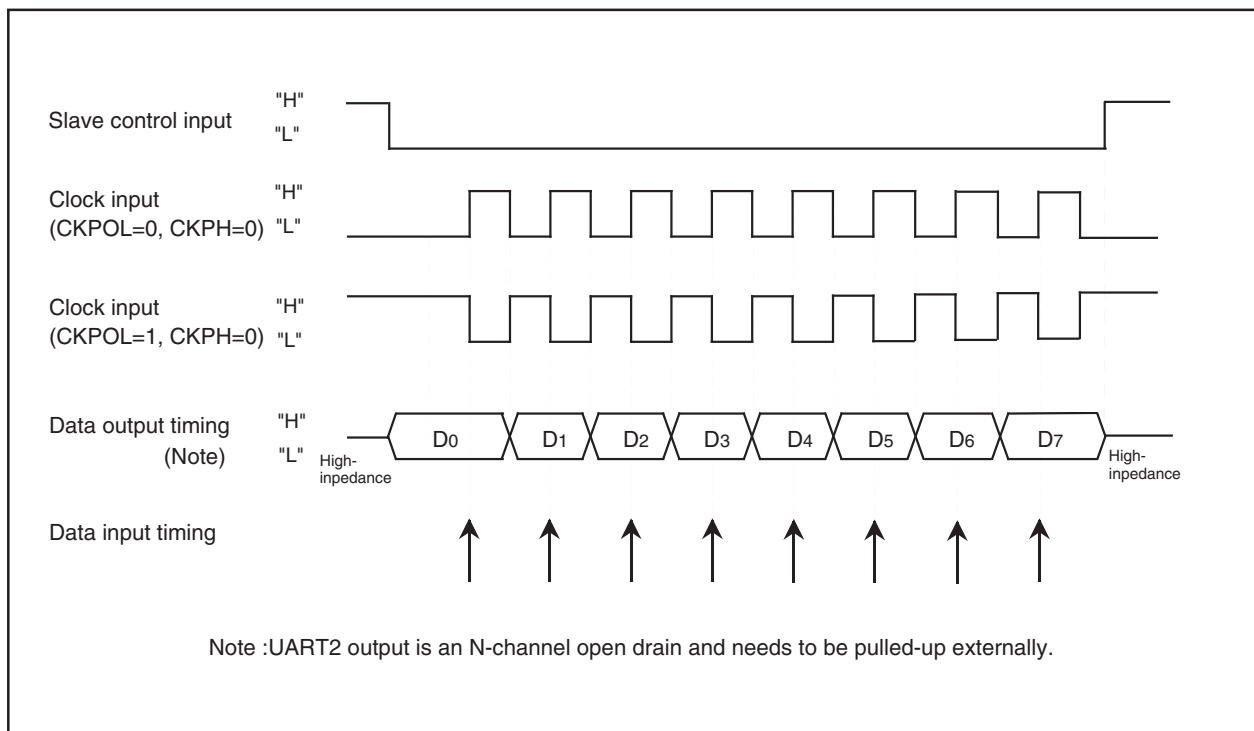

Figure 1.15.35. The transmission and reception timing (CKPH=1) in slave mode (external clock)
- Figure 1.15.35 shows the timing when bit 1 of address 0375₁₆)="1"